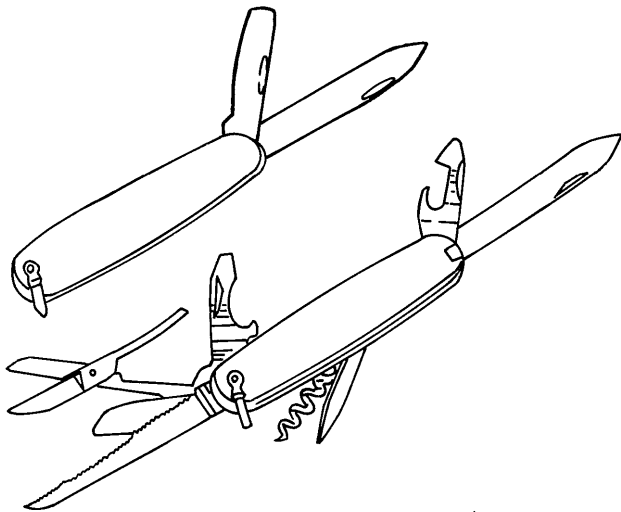

Figure 4-51. Pocket Knives
(2) Pocket knife. Pocket knives are used for light cutting, sharpening pencils, cutting string, and whittling. They are not suitable for heavy work. There are many styles and shapes as shown in figure 4-51. Some are multipurpose and have an assortment of blades which are used for forcing holes, driving screws, opening cans, as well as cutting. The blades are hinged and contained within the case when not in use and are spring loaded to keep them firmly in place when open or closed.